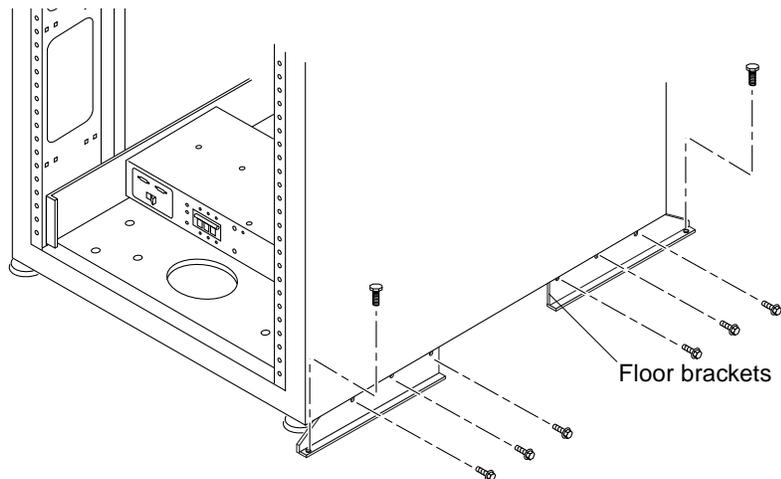

FIGURE 2-6 Attaching the Floor Brackets
2. Using a 7/16-inch wrench, attach the right floor brackets to the front and back of the storage system (FIGURE 2-6).